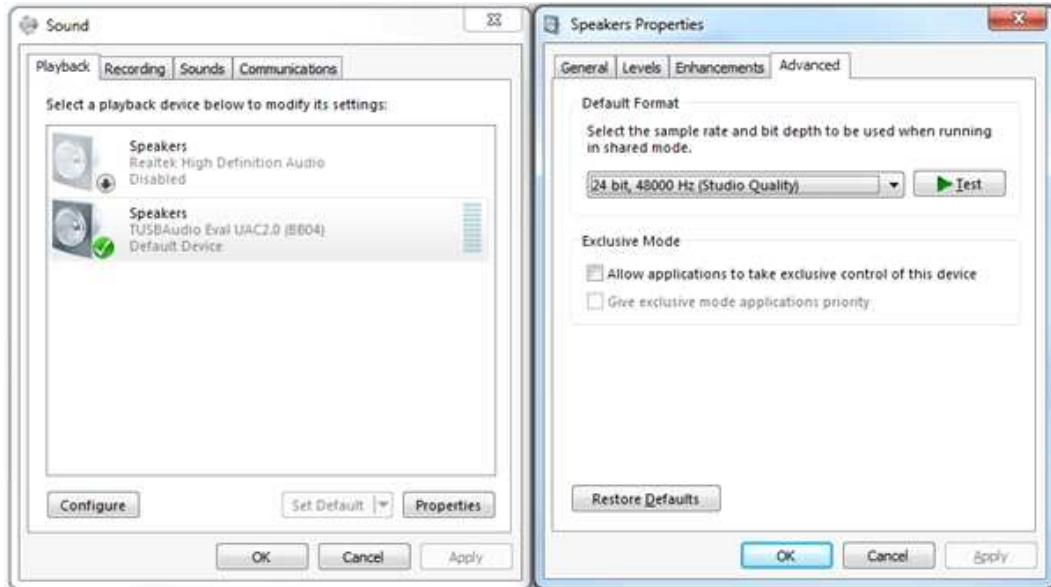

图 4. Playback Device Settings
8. Verify that the EVM is the default playback device by opening the sound dialog from the Windows Control Panel (see 图 4).
6. Verify that the EVM is the default playback device by opening the sound dialog from the Windows Control Panel, as shown in 图 4.